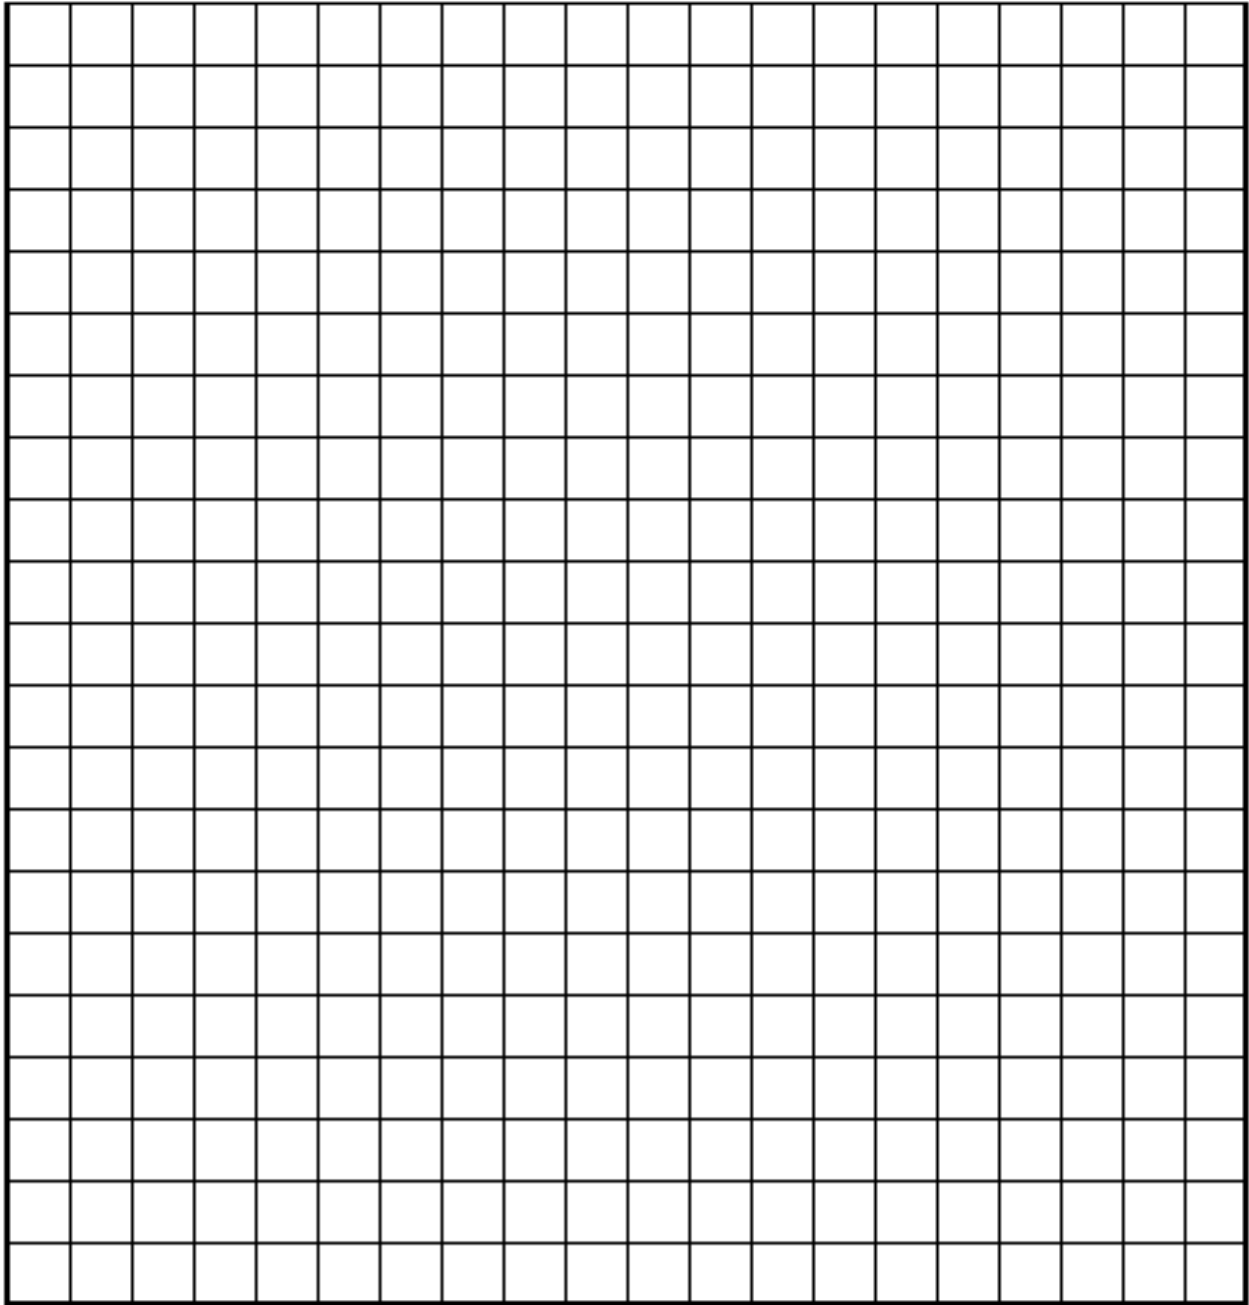

Figure 4. Angle of Incidence versus Vertical Deflection.
7. On the provided graph (Figure 4), label the horizontal axis as "Angle of Incidence θ_i (degrees)" and the vertical axis as "Vertical Deflection Δy (cm)." Plot the vertical deflection as a function of the angle of incidence.